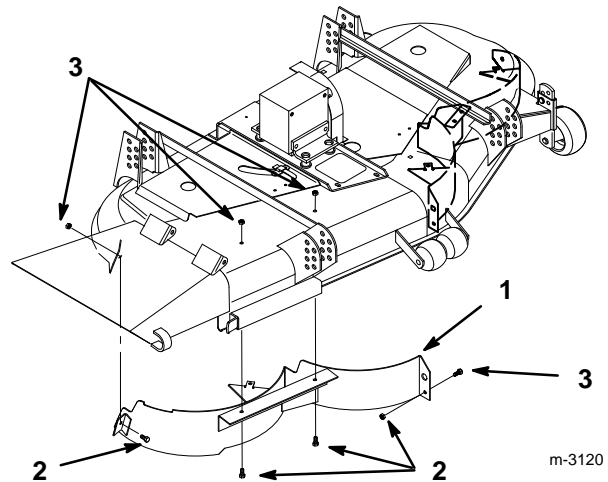

Figure 9
1. Remove locknuts from top, discharge side and center flange of right side baffle (Fig. 9). Lower baffle and slide out discharge opening to remove.
2. Install previously removed 5/16–5/8" (16 mm) bolts and 5/16" locknuts in open holes of mower for safety (Fig. 9).